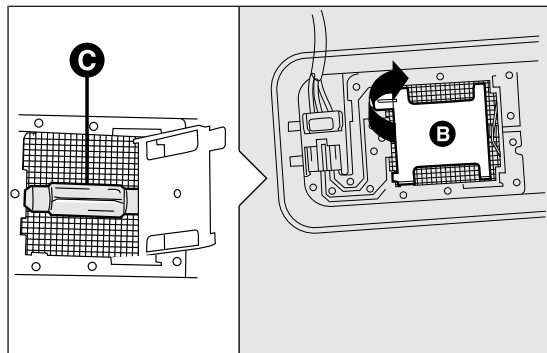

fig. 149
- open the lid B fig. 149 as shown;
- remove bulb C fig. 149 by releasing it from the side contacts, then insert the new bulb and make sure it is correctly clamped between these contacts;